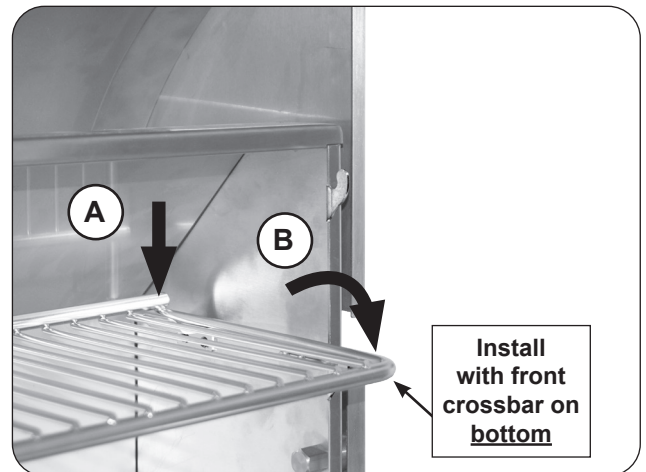

Fig. 25-2 Place warming rack for use
2. With the warming rack oriented as shown, carefully rest the rear of the rack onto the rear support plates (see Fig. 25-2, A), then lower the warming rack arms onto the lower hooks for use (see Fig. 25-2, B).